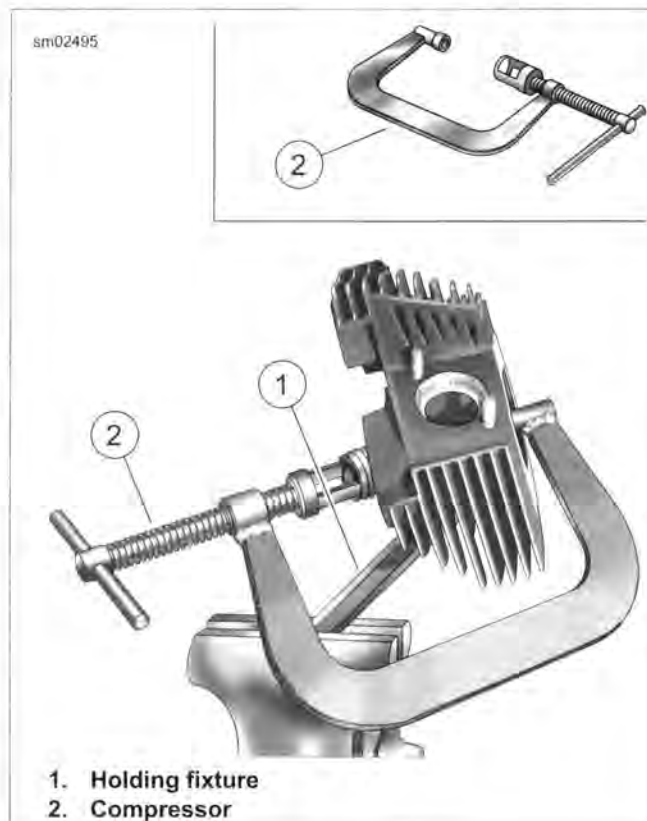
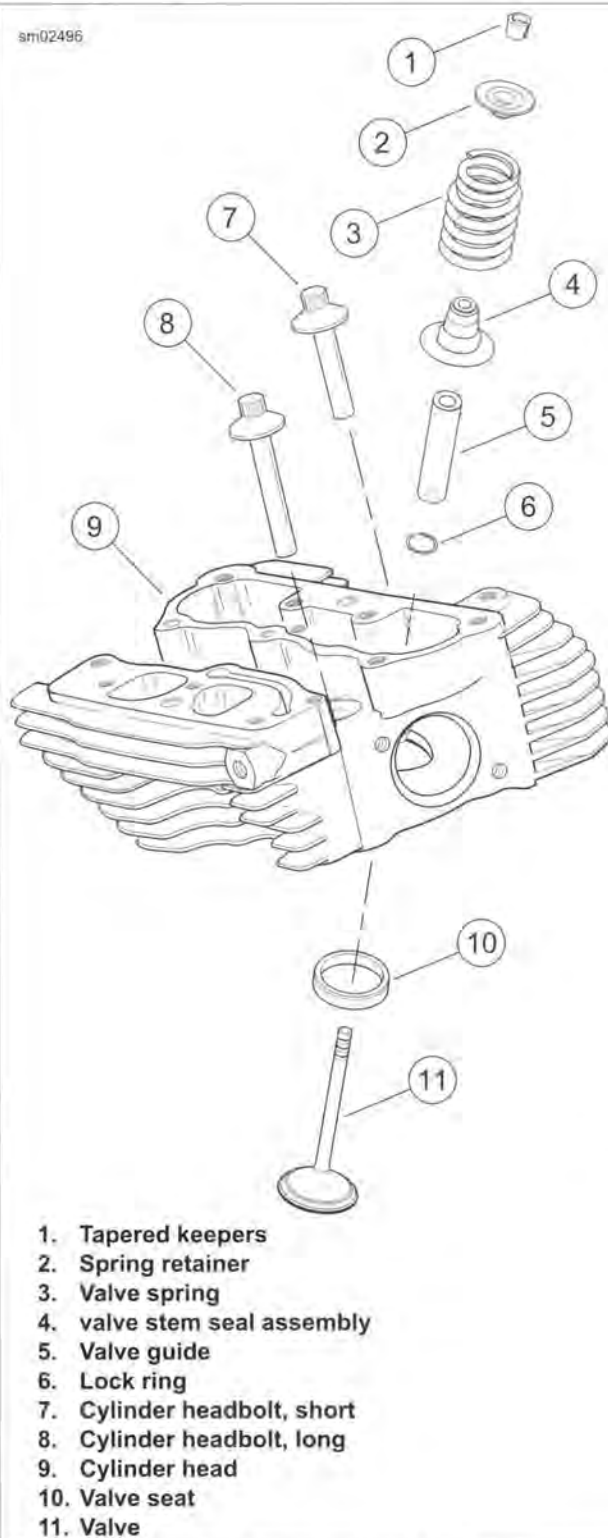

Figure 3-35. Valve Spring Compressor
Figure 3-36. Cylinder Head Assembly
3. See Figure 3-35. Release valve spring compression.
- a. Place VALVE SPRING COMPRESSOR (Part No. HD-34736-B) (2) over cylinder head. Center blunt end on the valve head. Seat adapter on the valve spring retainer.
- b. See Figure 3-36. Rotate forcing screw to compress valve spring until tapered keepers (1) can be removed from valve stem (11).
4. Remove spring retainer (2) and valve spring (3).
5. Slide valve (11) from the valve guide (5).
6. Remove valve stem seal assembly (4).